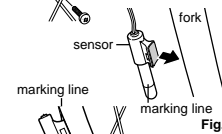

Fig.6
- Attach the sensor on the right fork. (Fig.6) Adjust the position and clearance as follows: